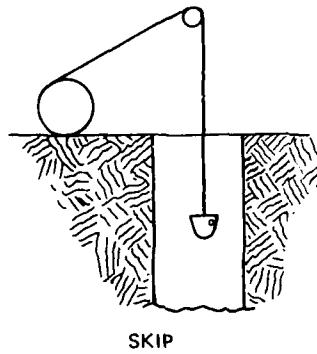

Figure 6
- a single rope and single conveyance. (See Figure 6)